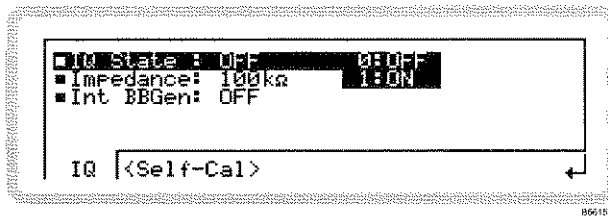

Fig. 3-64 External IQ, analog
- 2 Press **SIG GEN** to show the main screen, and touch the **IQ** soft box to select the function. Touch **IQ** and press **↵** to view the external analog IQ modulation menu (Fig. 3-64).